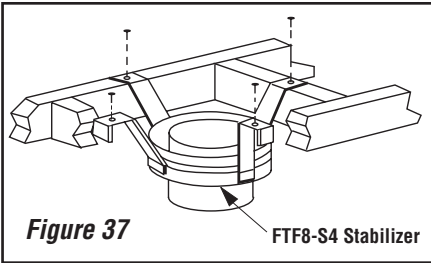

Figure 37 FTf8-S4 Stabilizer
Install the Model FTF8-S4 stabilizer by fitting inner section down into respective section of proceeding flue pipe and locking outer stabilizer section into place over the outer chimney pipe. Position for proper clearance through framed opening and nail straps securely (under tension in "shear") into place on framing. Use 8d nails. Attach successive lengths of chimney pipe directly to stabilizer using same techniques as described in **Step 4** (see **Figure 37**).
Step 1. Use the Offset Chart (**Table 4**) to determine amount of horizontal offset (A) and height (B) for various chimney section assemblies.
Step 3. Use Elevation Chart as job estimator only. Add necessary firestop spacers and stabilizers as required. Firestop spacers must be used as shown in **Figures 31 & 32** and stabilizers as shown in **Figure 37**.